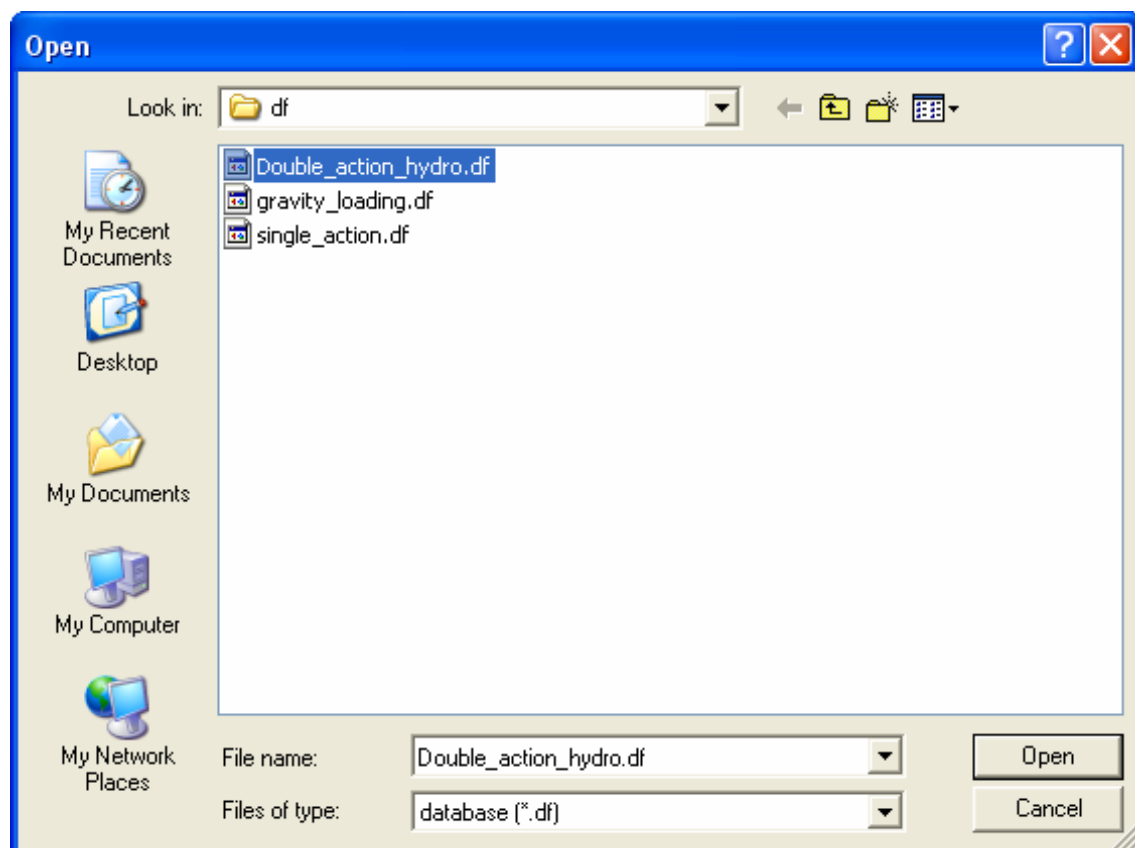

Figure 7.1 Open file dialog box
1. From the menu bar, select **File→Open...** to open the OPEN FILE dialog box illustrated in Figure 7.1.